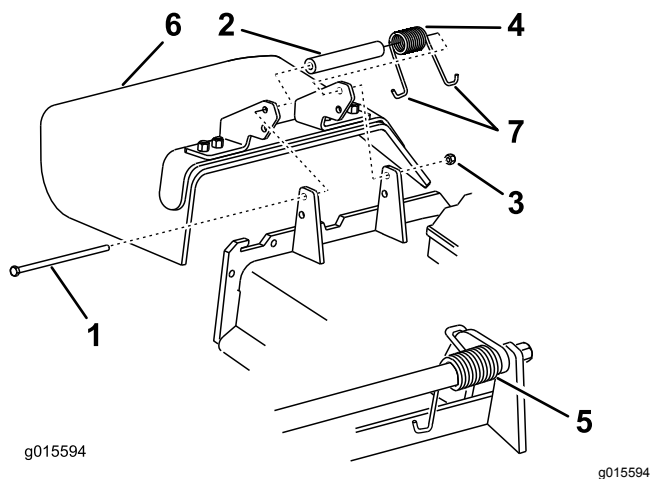

Figure 121
1. Remove the locknut, bolt, spring, and spacer holding the deflector to the pivot brackets (Figure 121).
2. Remove the damaged or worn grass deflector (Figure 121).
Note: Make sure that 1 J-hook end of the spring is installed behind the deck edge before installing the bolt as shown in Figure 121.
- Place 1 J-hook end of the spring around the grass deflector (Figure 121).